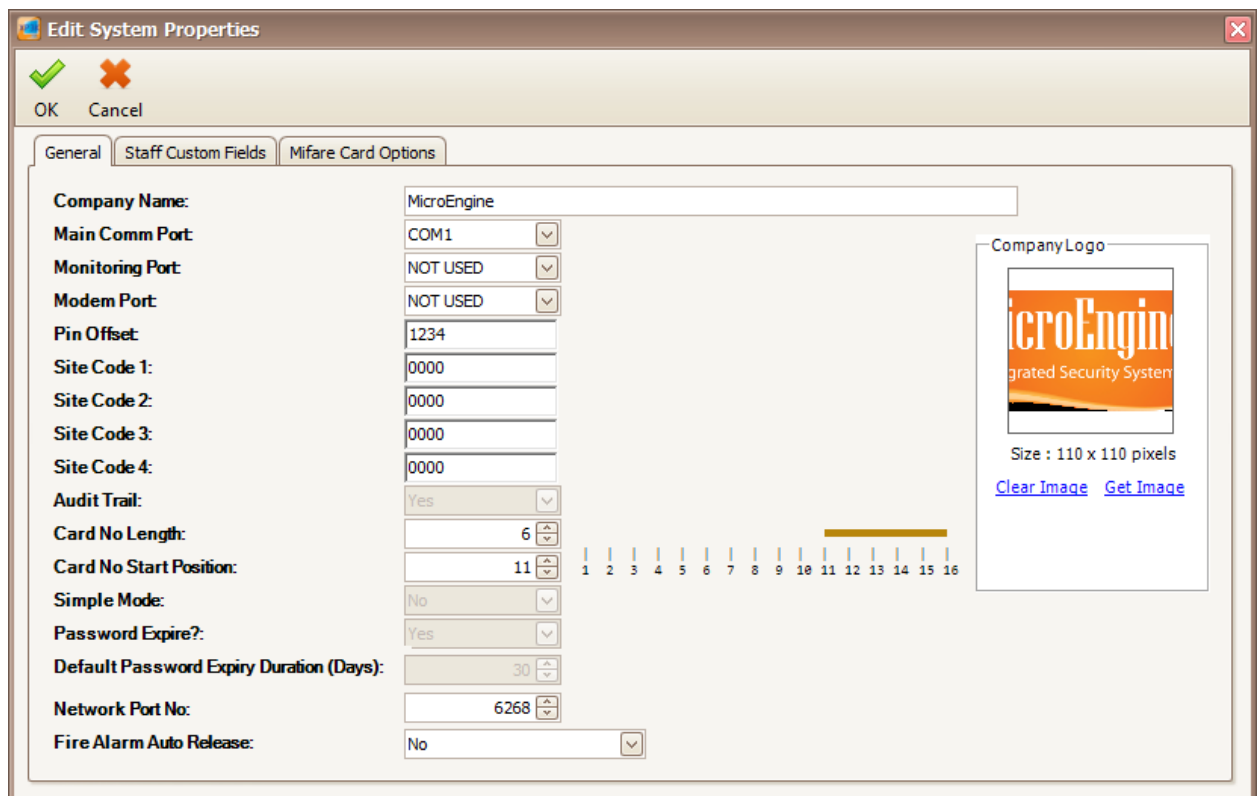

Figure 145 - Edit System Properties
3. Click Modify to change the system properties settings (Refer **Figure 145**).